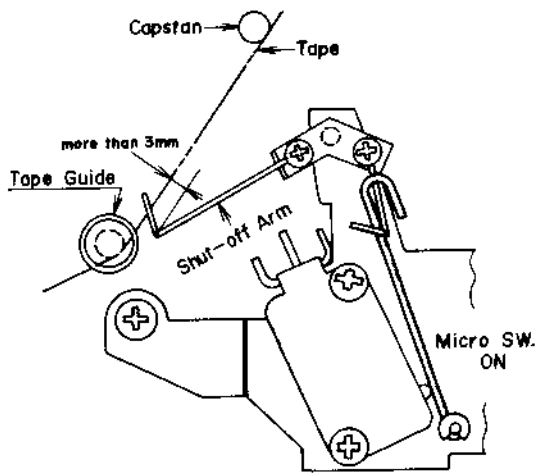

Fig. 1-16
- b) Return shut off switch to OFF position and move gently by hand. Confirm that the micro switch is turned ON at a distance of more than 3 mm before the shut-off arm reaches the tape surface (Refer to Fig. 1-16).